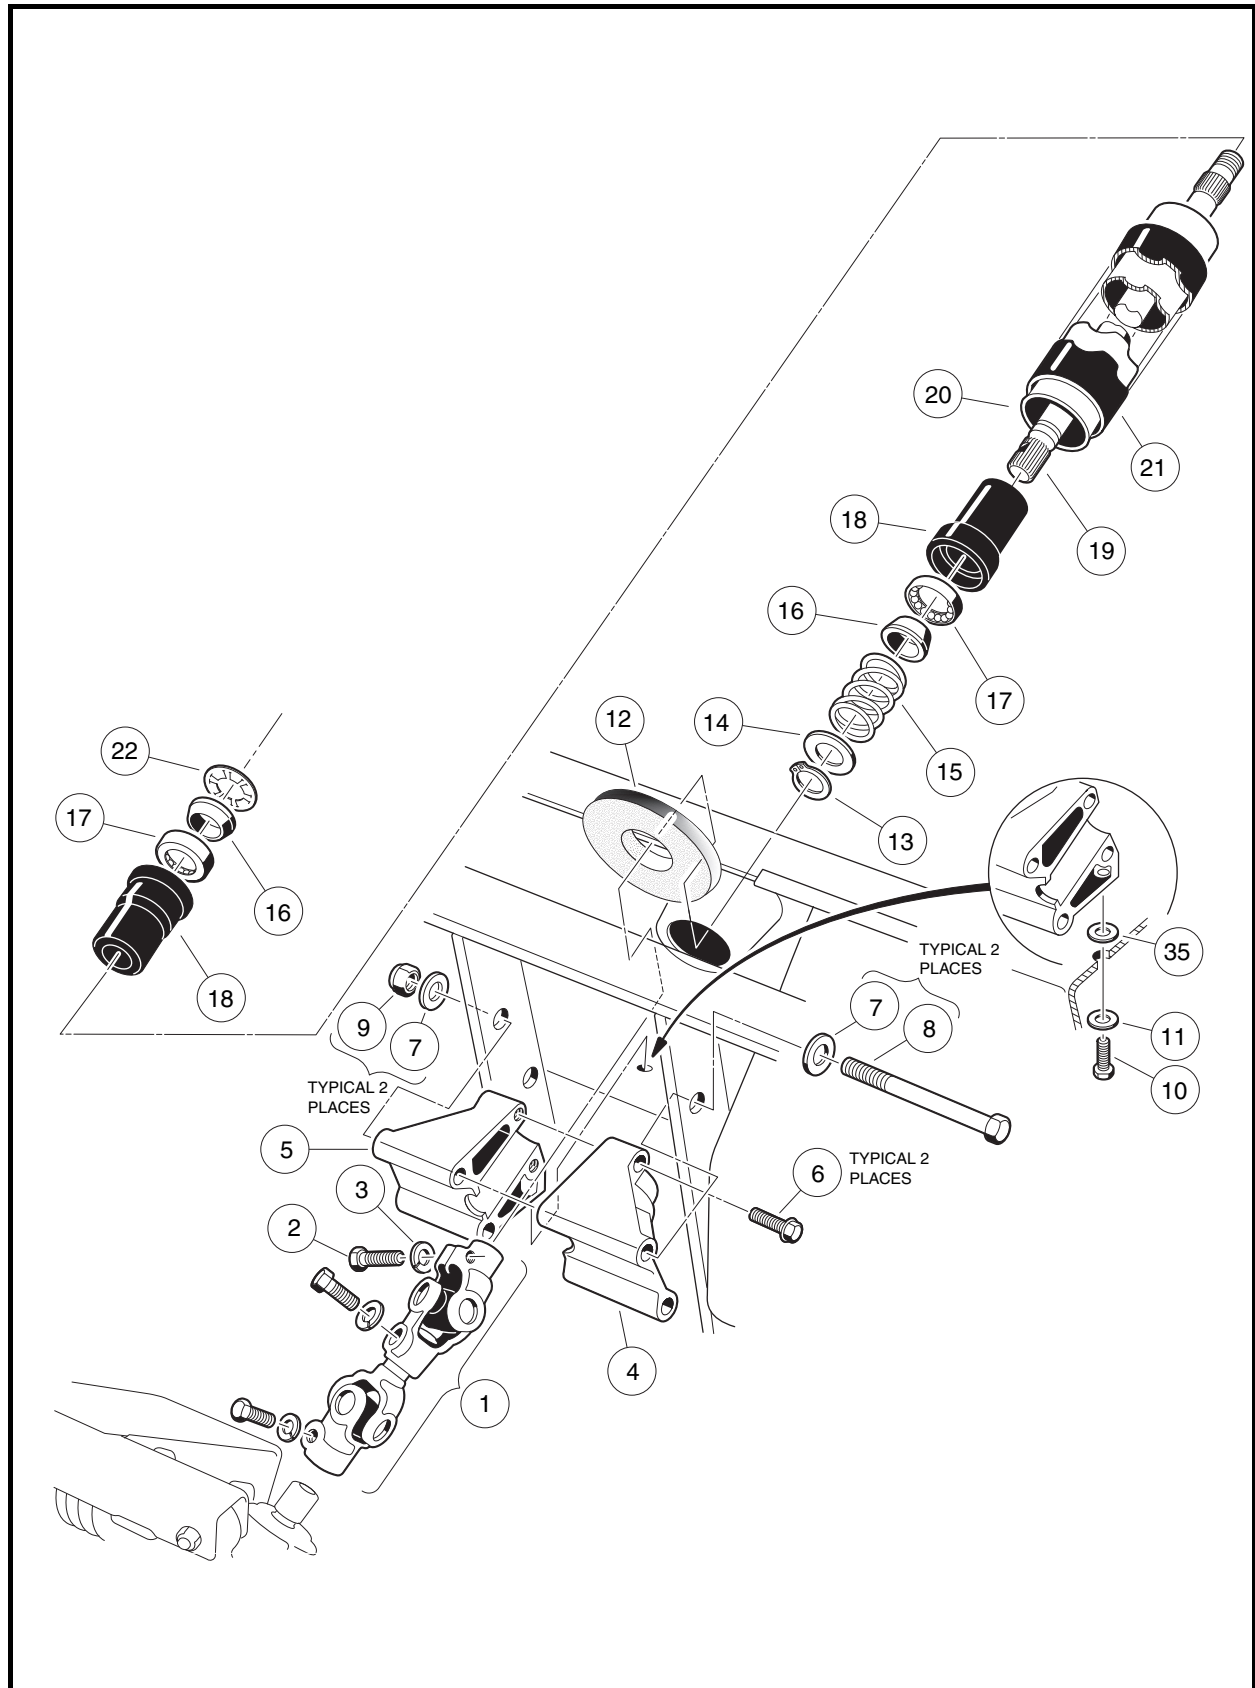

Figure 7-3 Steering Column
5. Remove the upper bolt (2) and lock washer (3) from the universal joint (**Figure 7-3, Page 7-3**).
6. Remove the nuts (9), bolts (8 and 10), and washers (7 and 11) from the steering column mount (4 and 5) (**Figure 7-3, Page 7-3**).
1. Remove bolts (6) and mounts (4 and 5) from steering column. Remove boot (12) (**Figure 7-3, Page 7-3**).
2. While supporting steering column (20) on a workbench, remove snap ring (13) from shaft. **See following NOTE.**
4. Insert the shaft (19) from the bottom of the steering tube (20) (**Figure 7-3, Page 7-3**).
1. Install boot (12). Reinstall mount (4 and 5) onto the end of the steering column. Tighten bolts (6) to 20 ft-lb (27 N·m) (**Figure 7-3, Page 7-3**).
3. Position the steering column assembly in the vehicle while inserting the steering column shaft into the upper universal joint (1). The flat portion of the steering shaft spline (19) must be aligned with the bolt hole in the universal joint (1) before sliding the spline into the universal joint. While holding the steering column in place, attach it to the frame using bolts (8), washers (7), and nuts (9) (**Figure 7-3, Page 7-3**). Thread the nuts onto the bolts but do not tighten them.
4. Install wide washer (35), washer (11) and screw (10). Tighten to 20 ft-lb (27 N·m) (**Figure 7-3, Page 7-3**).
5. Install the bolt (2) and lock washer (3) on the upper universal joint and finger-tighten.
6. Tighten the two nuts (9) and bolts (8) to 18 ft-lb (24.4 N·m) (**Figure 7-3, Page 7-3**).
7. Tighten the bolt (2) on the upper universal joint to 15 ft-lb (20 N·m) (**Figure 7-3, Page 7-3**).
8. Check the other two bolts of the universal joint (1) to ensure that they are properly tightened to 15 ft-lb (20 N·m) (**Figure 7-3, Page 7-3**).
5. Remove the bolt (2) and flat washer (3) on the upper universal joint, then remove the rack assembly and universal joint from the vehicle (**Figure 7-3, Page 7-3**).